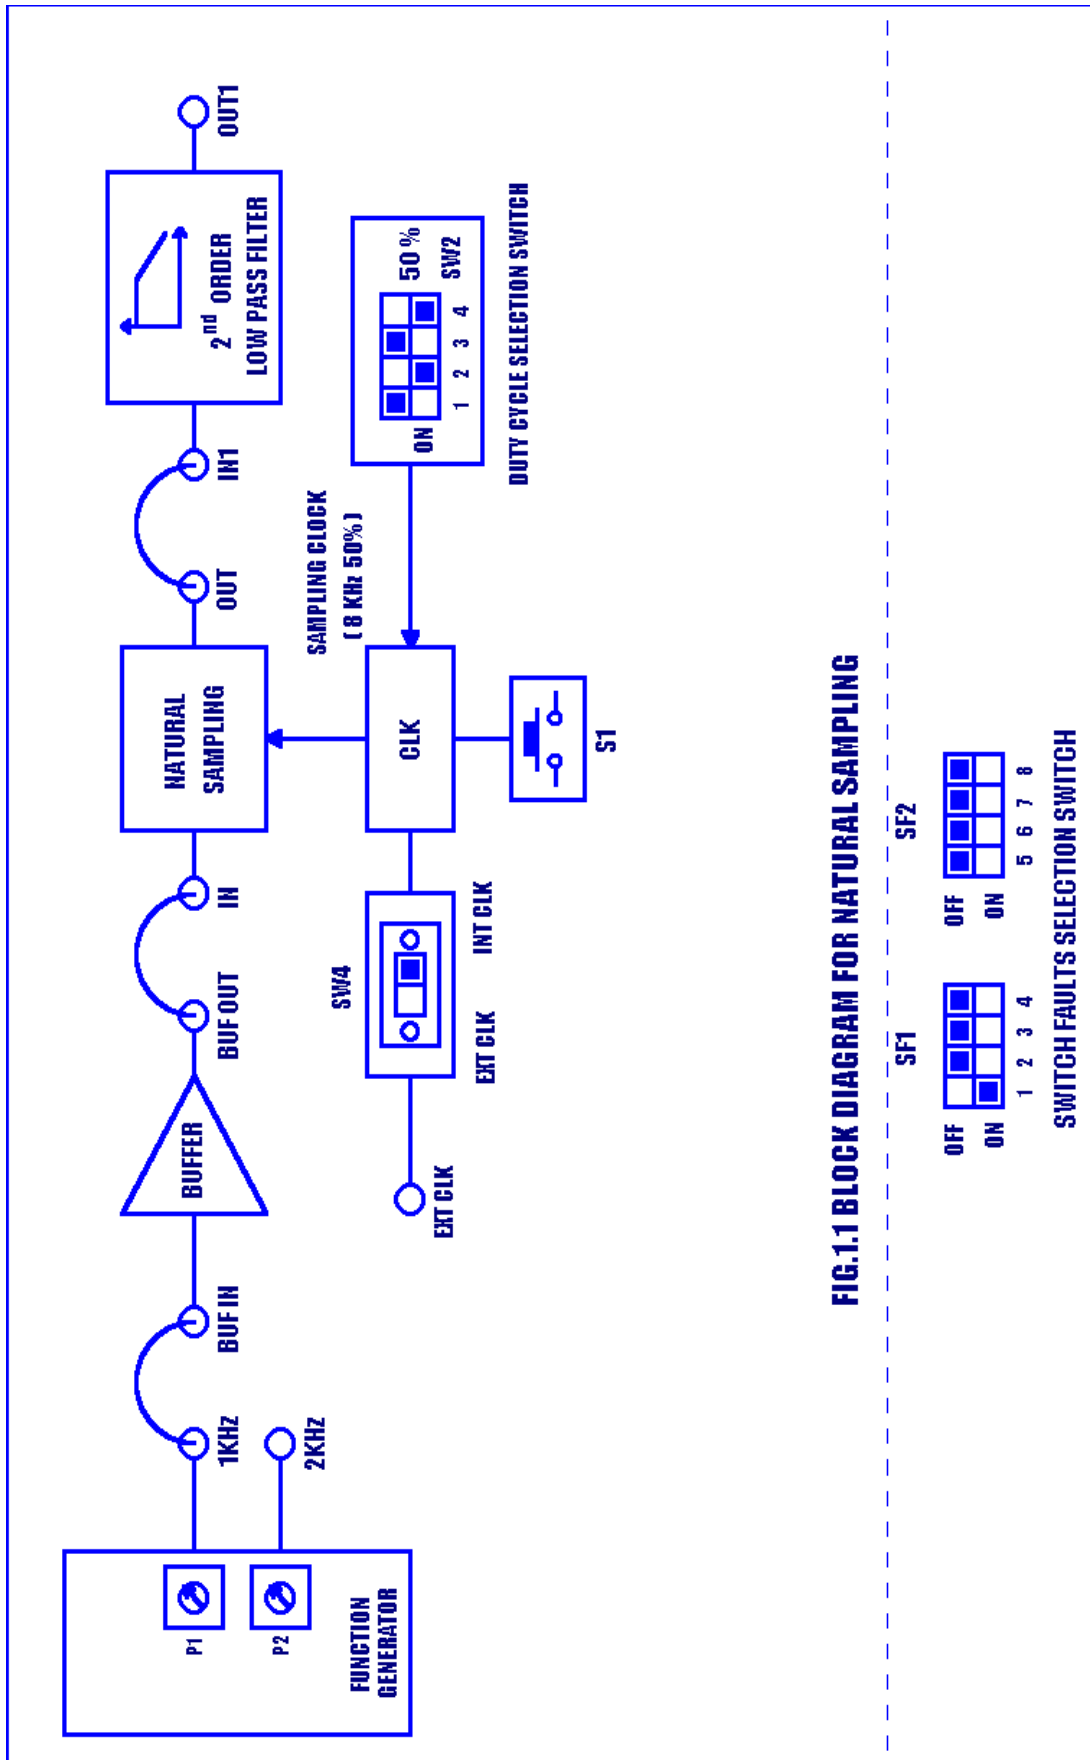

FIG.1.1 BLOCK DIAGRAM FOR NATURAL SAMPLING
1. Refer to the Block Diagram (Fig. 1.1) & Carry out the following connections and switch settings.